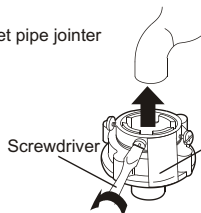
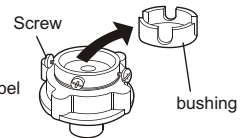

Figure 2
Figure 3
2. Loosen the screw till the water tap can be accessed. Put the jointer of the water inlet hose on the tap. See to Figure 2. (If the tap diameter is too large and the jointer can not be set on the water tap, please loosen the four screws and take out the bushing in the jointer. See to the figure 3.)